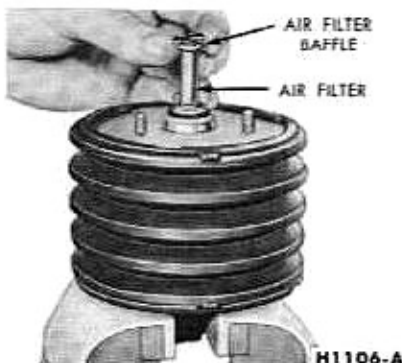

FIG. 5—Air Filter Baffle and Air Filter Removal
2. While pushing down and sideways, unhook the air filter baffle from the guide sleeve, and remove the baffle and filter (Fig. 5).